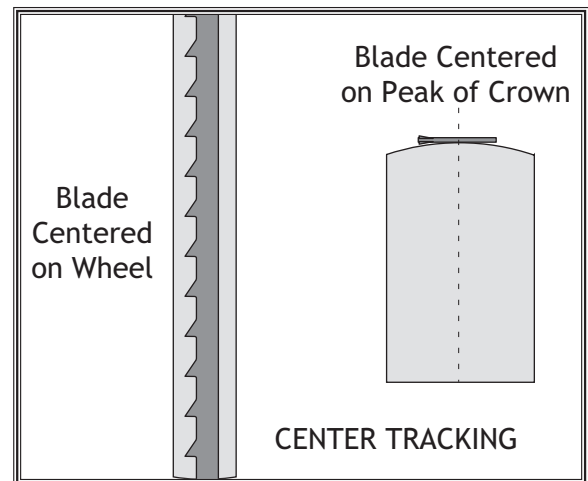

Figure 21. Center tracking profiles.
5. Spin the upper wheel by hand at least three times to see how the blade rides on the crown of the wheel. Refer to **Figure 21** for an illustration of this concept.